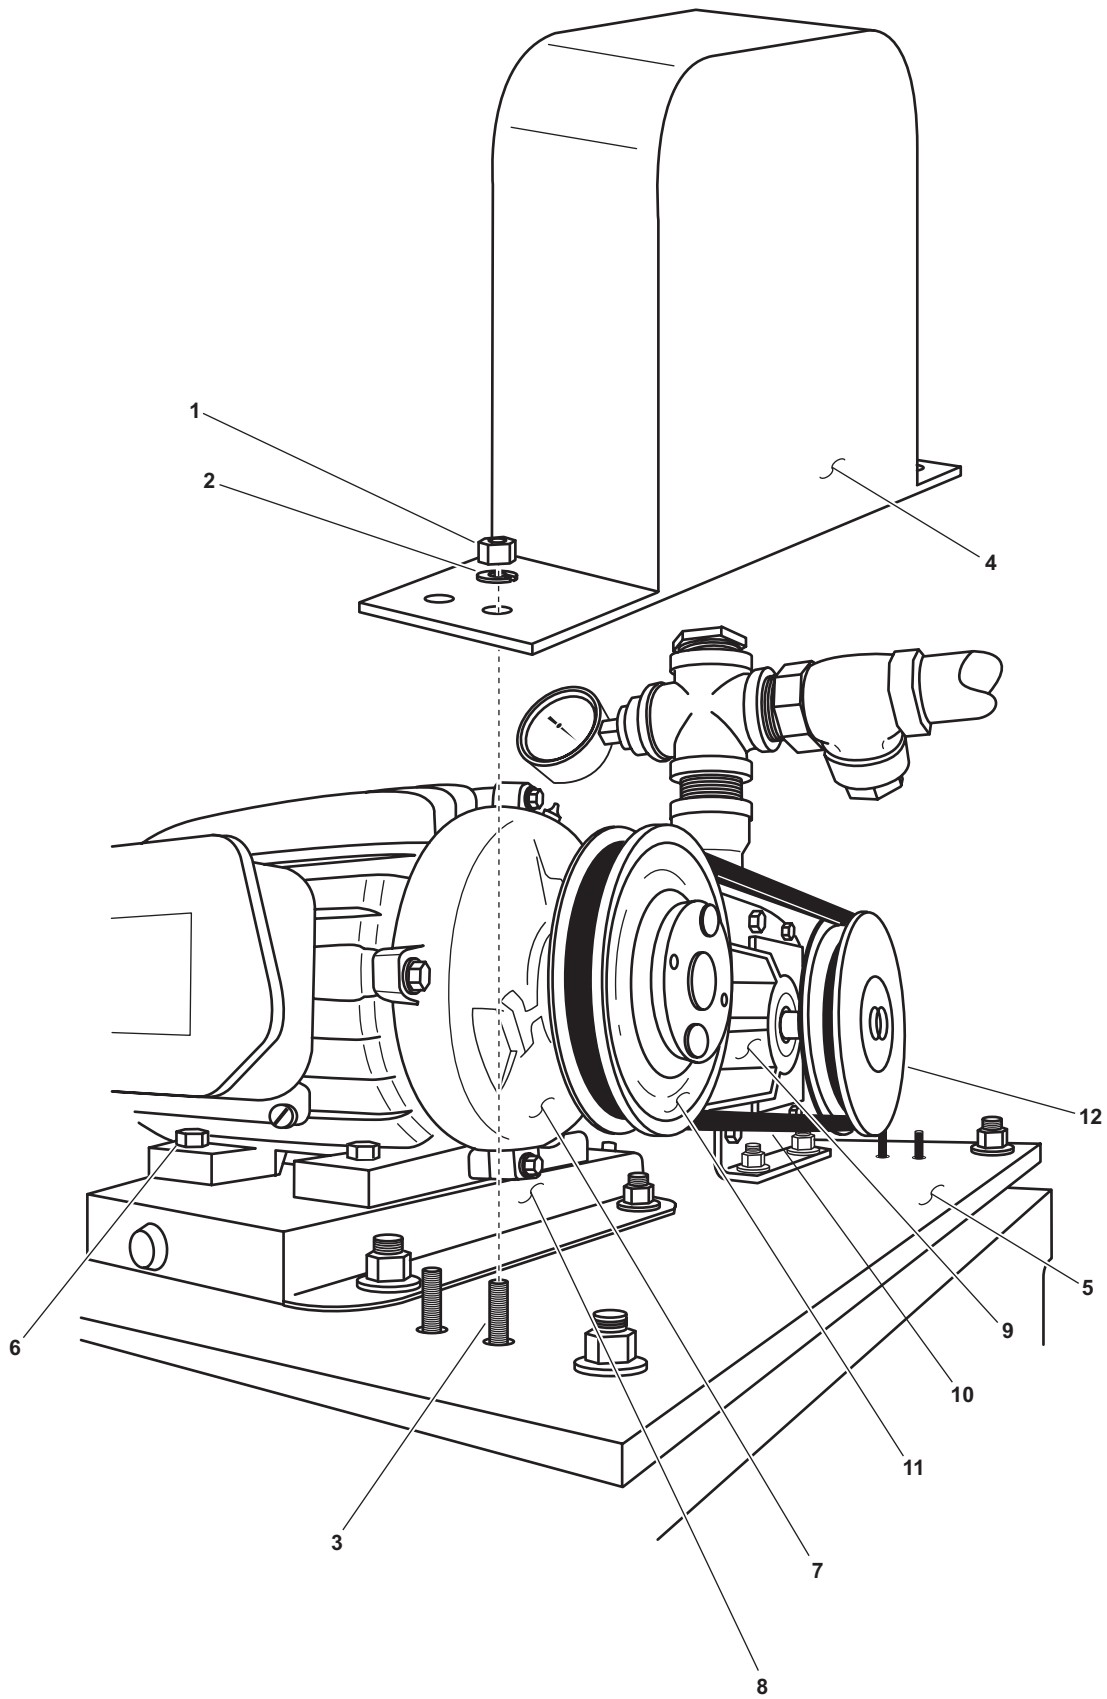
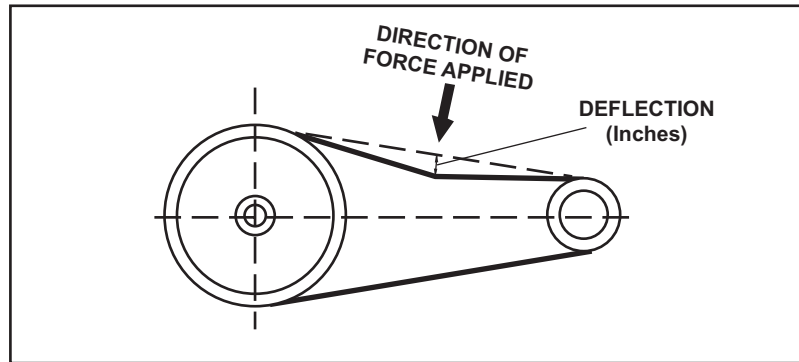

Figure 1. Blower and Motor Belt Guard Removal
Figure 2. Belt Adjustment
1. Remove the four nuts (figure 1, item 1) and four lockwashers (figure 1, item 2) from the studs (figure 1, item 3) that secure the belt guard (figure 1, item 4). Discard the lockwashers.
2. Remove the belt guard (figure 1, item 4) from its base (figure 1, item 5).
3. Loosen, but do not remove, the four bolts (figure 1, item 6) that secure the motor (figure 1, item 7) to its base (figure 1, item 8).
4. Slide the motor (figure 1, item 7) towards the blower (figure 1, item 9) until the belt (figure 1, item 10) is loose enough to be removed from the motor sheave (figure 1, item 11) and the blower sheave (figure 1, item 12).
5. Remove the belt (figure 1, item 10) from the motor sheave (figure 1, item 11) and the blower sheave (figure 1, item 12). Discard the belt.
1. Install a new belt (figure 1, item 10) on the blower sheave (figure 1, item 12) and the motor sheave (figure 1, item 11).
2. Slide the motor (figure 1, item 7) away from the blower (figure 1, item 9) until the proper belt tension is achieved. Proper tension is achieved when the belt may be deflected 1/2 inch (13 mm) at its midpoint (figure 2) when applying approximately 4 to 5 pounds (1.8 to 2.3 kg) of force to the belt. A new belt should be tensioned tighter (approximately 3/8 inch (10 mm) deflection).
3. Tighten the four bolts (figure 1, item 6).
6. Position the belt guard (figure 1, item 4) over the studs (figure 1, item 3) on its base (figure 1, item 5) and secure it with the four nuts (figure 1, item 1) and four new lockwashers (figure 1, item 2).
5. Inspect the belt (figure 1, item 10) for damage, including signs of wear, tears, cuts, and nicks. Replace the belt if any of the conditions listed are present.
1. Slide the motor (figure 1, item 7) away from the blower (figure 1, item 9) until the proper belt tension is achieved. Proper tension is achieved when the belt may be deflected 1/2 inch (13 mm) at its midpoint (figure 2) when applying approximately 4 to 5 pounds (1.8 to 2.3 kg) of force to the belt. A new belt should be tensioned tighter (approximately 3/8 inch (10 mm) deflection).
2. Tighten the four bolts (figure 1, item 6).